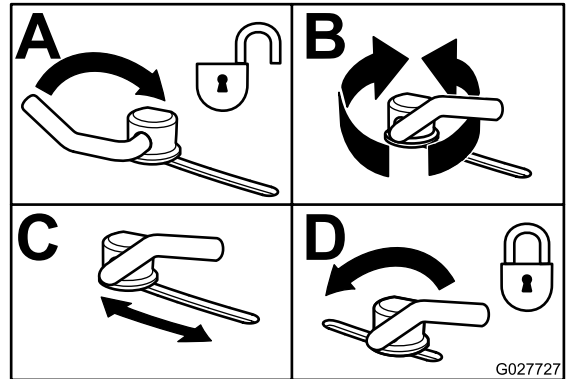

Figure 34
3. To adjust the cam locks, swing the lever up to loosen the cam lock (Figure 34).
5. Swing the lever back over to tighten the baffle and cam locks (Figure 34).